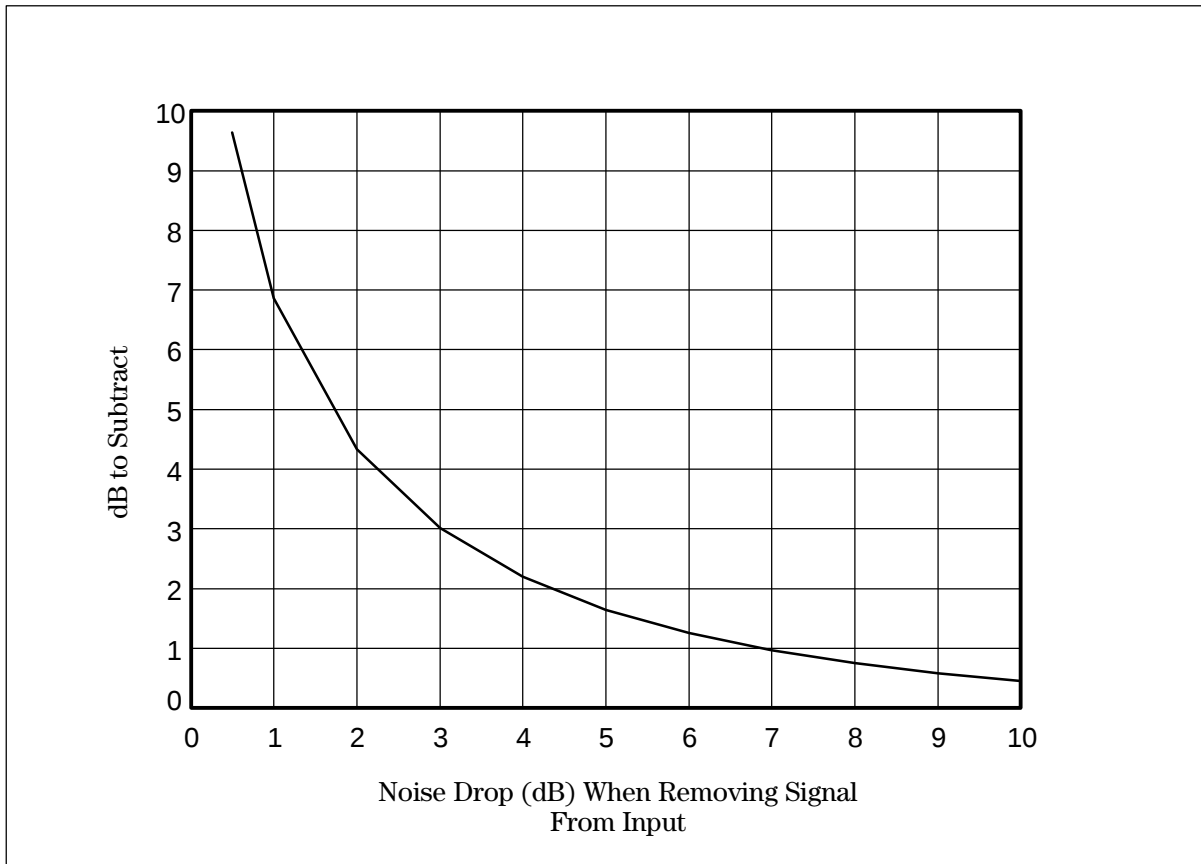

Figure 4.6. Correction to readings of noise level when input noise is within 10 dB of analyzer noise.
Analyzer or analyzer plus preamplifier noise figure: If the noise of the system is not 10 dB greater than the analyzer noise, or the analyzer plus the preamplifier's noise, then the value will be a composite of input and analyzer noise. The reading will be too high. Figure 4.6 shows the correction. For example if the noise drops 3 dB when disconnecting the input, subtract 3 dB from the measured noise value. ADD 3 dB to the uncorrected C/N measurement.
9. Determine the effect of analyzer noise on the measurement of the input noise. Press MKR **MARKER** Δ and disconnect the input from the analyzer, or, if a preamp is use, from the input to the preamp. Read the noise change. Get the noise near noise correction from the curve in Figure 4.6.